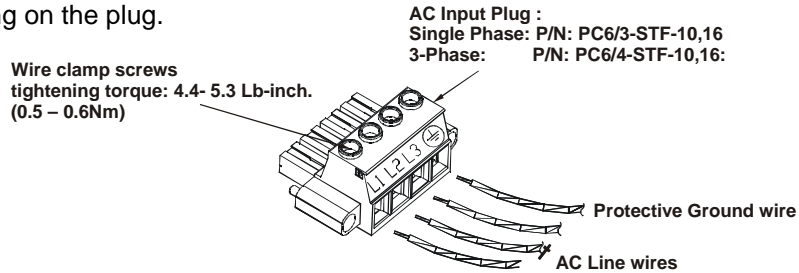

Fig.3-3: AC Input plug (3-Phase shown)
- Connect the AC wires to the terminals of the input plug supplied with the unit. To connect the wires, loosen the terminal screw, insert the stripped wire into the terminal and tighten the screw securely (4.4-5.3 Lb-inch). (0.5 - 0.6Nm) Refer to Fig. 3-3 for details. Pay attention to connect the wires according to the polarity marking on the plug.